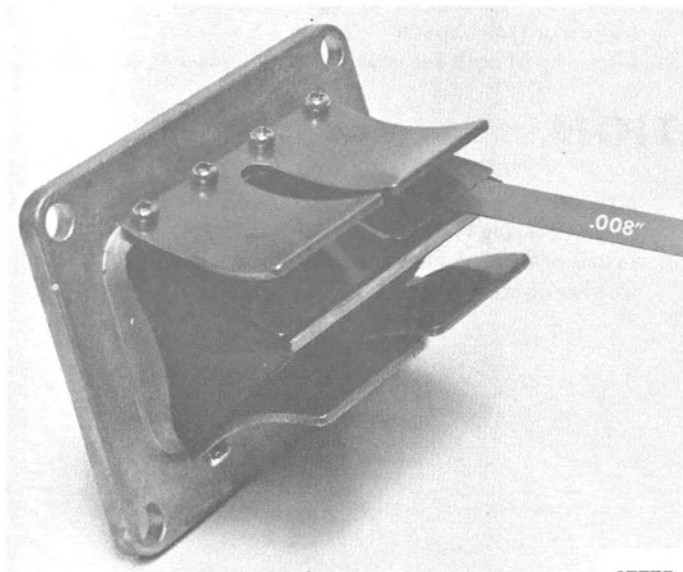

Figure 2. Reed Opening
4. Check reed opening. If reed opening is in excess of .008", replace reed. (Figure 2)